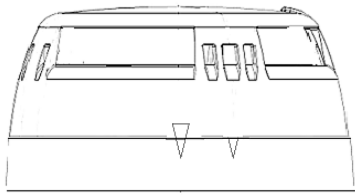

Figure 4
- Verify the alignment between the ONE- DETECTOR1_AP and the raised reference marks on the ONEBASE_AP.(Fig4)